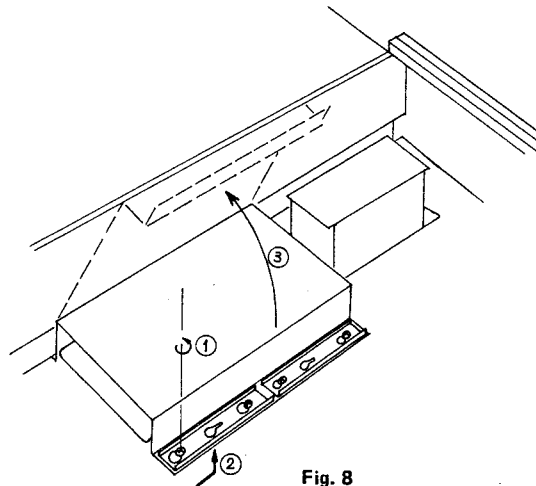

Fig. 8
17. For this step, the control panel must be in the "UP" (service) position. Locate the metallized paper cover used to shield the EAP (FS-500, FS-300) or MA (FS-200, FS-100) circuit board. Loosen the retaining screws (4). Removal of the retaining screws is not necessary, "Key hole" slots have been provided. Now, remove the metal brackets and metallized paper cover (see figure 8).